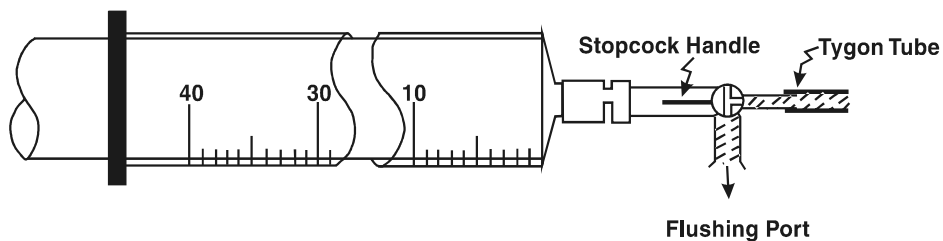

Figure 26.—Sample Syringe (Flushing).
- Install the glass sample syringe on the short piece of 1/8-inch tubing. Turn the stopcock handle on the syringe so that the handle points toward the syringe. **Note: The handle always points toward the closed port.** The other two ports are open to each other. See figure 26.